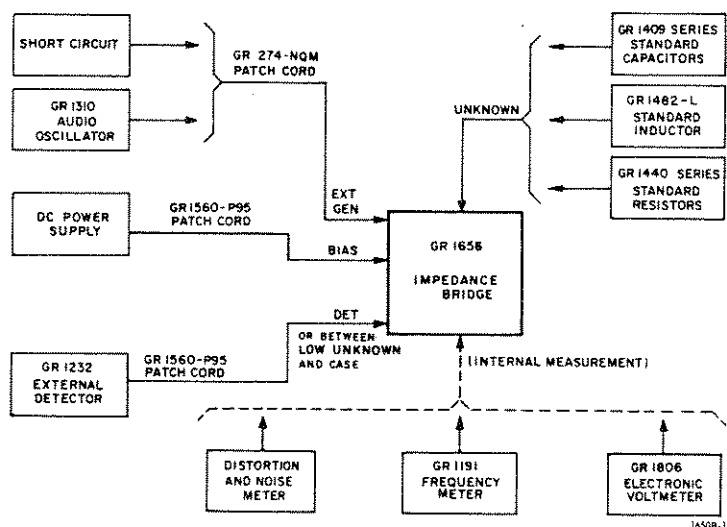

Figure 6-1. Test setup for service and maintenance of 1656.
The fifteen checks listed in Table 6-1 are given so that it can be determined that the instrument is in proper working condition (1) on receipt of a new bridge, (2) after a period of non-use, or (3) after repairs have been made to the bridge. If any specifications (READ column) are not met, the right-hand columns of Table 6-1 should identify the faulty component. Measurements should be made between 15°C and 35°C at less than 85% RH (see specifications). Table 6-2 lists the recommended test equipment for these checks plus the equipment needed for the calibration procedures given later. Figure 6-1 shows the equipment connected in a block diagram form.